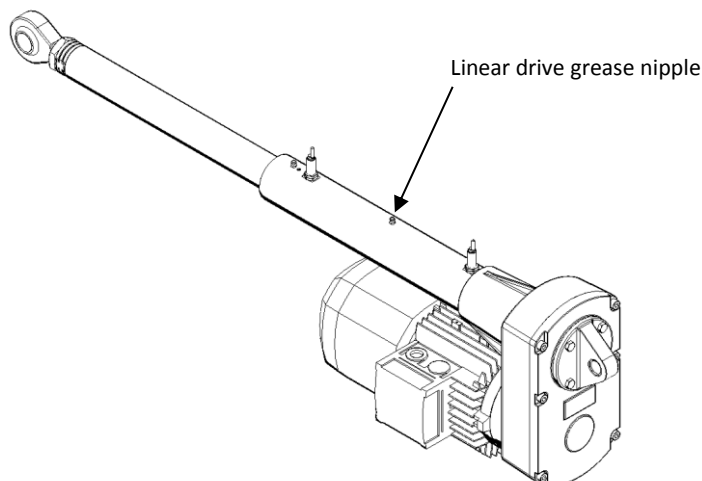

Figure 9.2 – Linear drive relubrication for UAL/UBA 3-4-5
- Relube the linear actuator using proper grease nipples, as shown on Fig. 9.2.